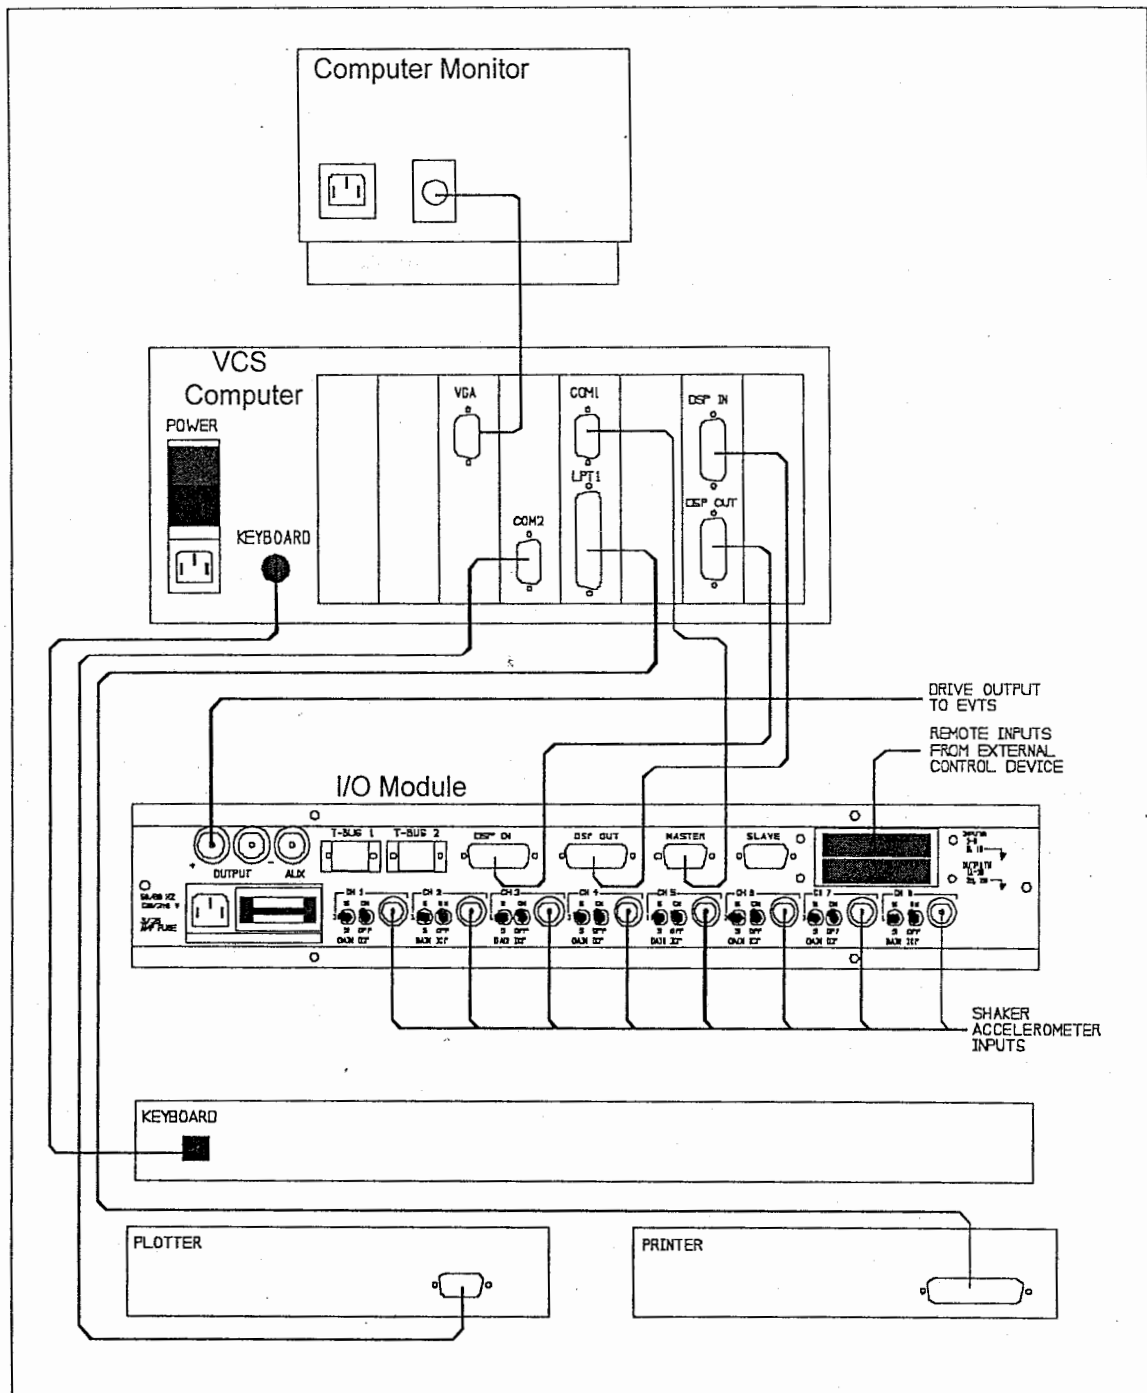

Figure 7-5. VCS Hardware and Interface.
1. Connect the RS-422 cables from the I/O Module **DSP IN** and **DSP OUT** connectors to the VCS Computer DSP card connectors. Refer to Figure 7-5.